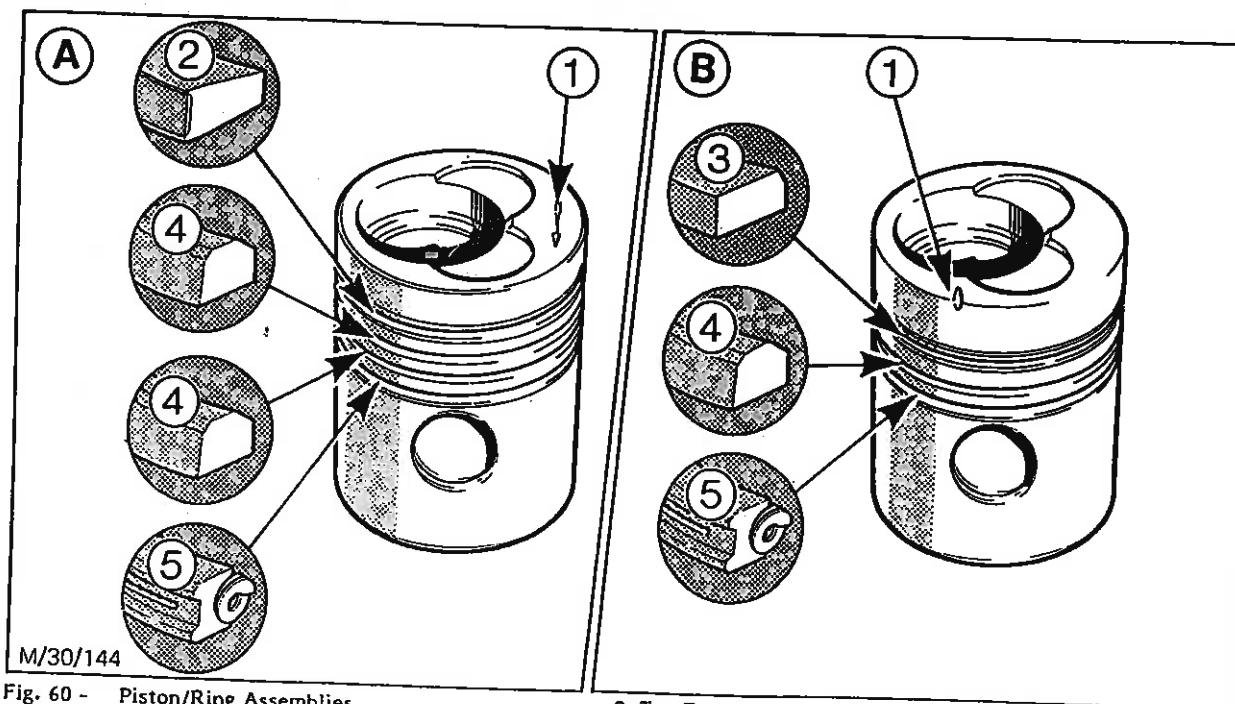

Fig. 60 - Piston/Ring Assemblies
NOTE: (i) Turbocharged engines have one tapered upper compression ring, two lower chamfered compression rings and one oil control ring - see Fig. 60 (A).
(ii) All naturally aspirated engines have one plain upper compression ring, one lower chamfered compression ring and one oil control ring - see Fig. 60 (B).